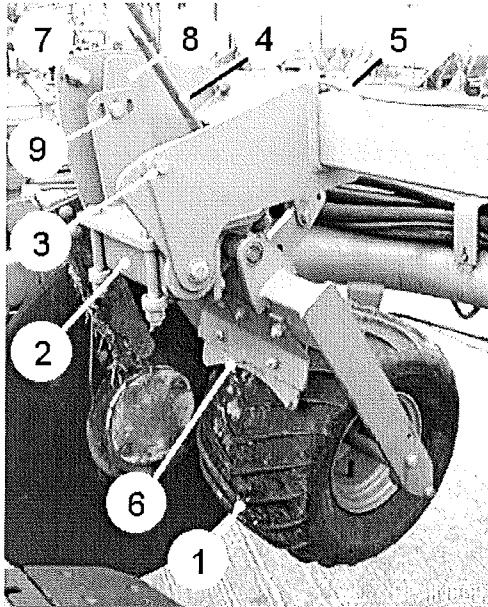

Fig 6
A depth wheel (item 1, figure 6) running on each ridge controls the share depth. Rubber torsion springs (item 2, fig 6) in the pivot provide downward pressure. To increase or decrease the amount of pressure exerted by the torsion spring, remove the mounting bolts (item 3, figure 6) in the spring tension bracket and reposition the bracket in either a forward or rearward position. Turning the handle (item 4, fig 6) changes the relationship between the wheel and the trigger plate thus adjusting the working depth.
Row width setting is adjusted by loosening the clamp bolts (item 5, figure 6) and sliding the wheel assembly until positioned centrally over the ridge. Both depth wheels must be equally spaced about the centre line of the machine. The depth wheels are each fitted with a scraper (item 6, fig 6). The scrapers should be set as close to the wheel as possible without fouling them.
Share depth is automatically controlled by the proximity sensors (item 7, figure 6). Each roller is adjusted and controlled independently of the other. Fine depth adjustment is made by turning the depth handle (item 4, figure 6).
Turning the handle clockwise will decrease digging depth, whilst turning anti-clockwise will increase digging depth. Larger depth adjustments can be made by repositioning the sensor trigger plate (item 8, figure 6). To adjust the trigger plate, loosen the pivot screw and remove the retaining screw (item 9, figure 6). Rotate the trigger plate to the required position and refit and tighten the screws. Moving the trigger plate forwards increases digging depth, while moving rearwards decreases digging depth. The depth control proximity switches are factory set and in normal circumstances should not require any adjustment.